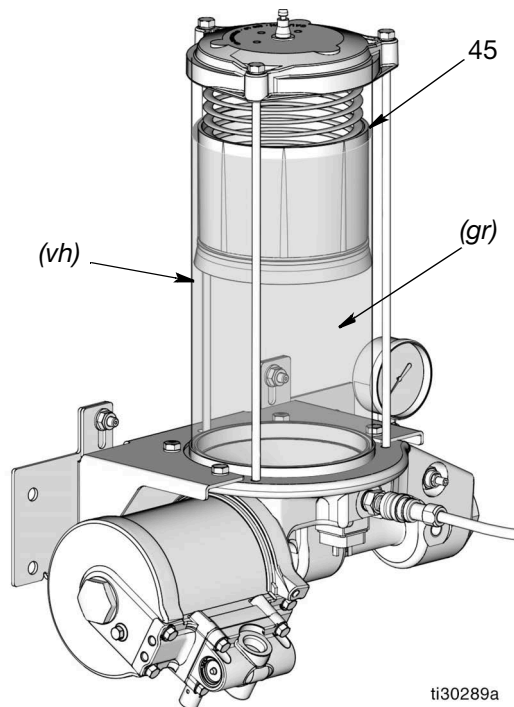

FIG. 9
3. Slowly dispense grease from the fill pump into the reservoir until the grease in the reservoir lifts the follower plate (45) above the reservoir vent hole (vh) and air is expended from under the follower plate (FIG. 9). A small amount of grease may come out of the vent hole at this time.
NOTE: The vent hole (vh) is located toward the back right side of the reservoir and cannot be seen in FIG. 9. The approximate location of the vent hole is identified as vh in the illustration.